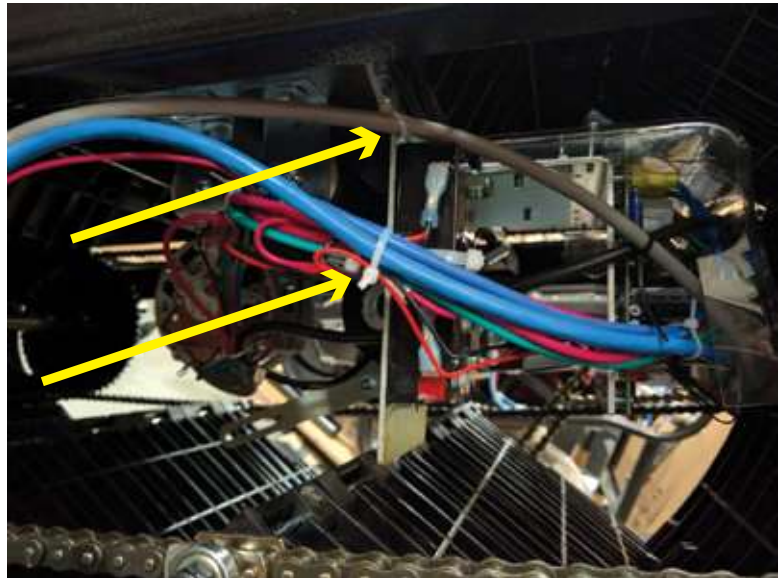

Fig. 8
9. On the user-right side, cut the two zip-ties as shown in Fig. 8 to move the brake.